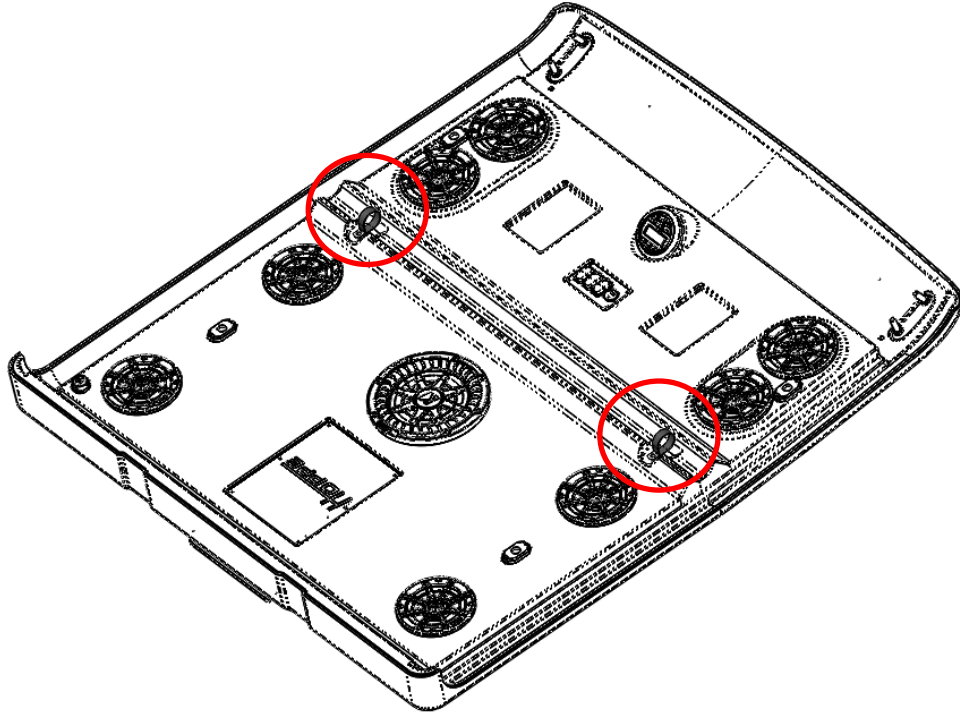
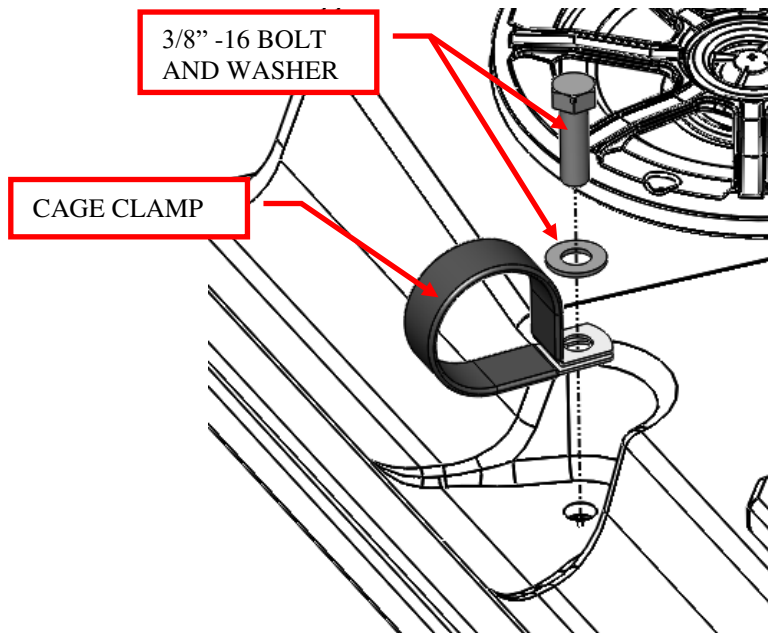

Figure 2: Remove the 2 clamps from the top.
Figure 3: Close up of cage clamp hardware.
1. Remove the cage clamps and 3/8"-16 bolts and washers that come pre-installed on the top. Save the hardware for installation. See Figure 2 and Figure 3.
7. Slide the loop clamps into position so they line up with the threaded holes in the top. For both clamps, install the 3/8-16 bolt with washer through both clamp tabs and into the threaded hole in the top. Use blue Loctite 243 (medium strength) and torque the bolts to 25 ft.*lbs. See Figure 3.